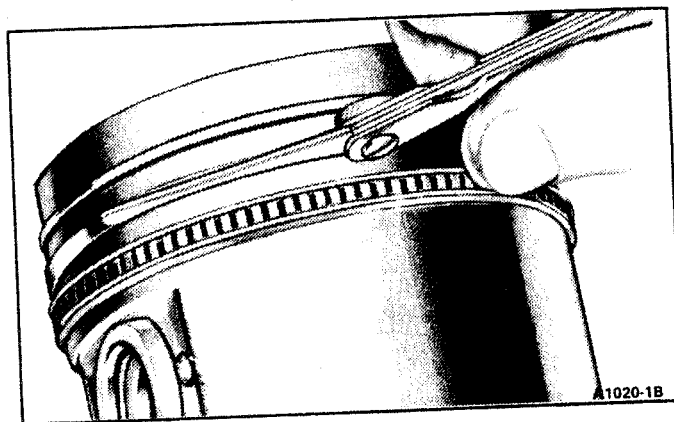

FIG. 82 Checking Piston Ring Side Clearance
6. Check ring side clearance of compression rings feeler gauge, Tool D81L-4201-A, inserted between ring and its lower land (Fig. 82). Gauge should slide freely around entire ring circumference without binding. Any wear that occurs will form a step at inner portion of lower land. If lower lands have high steps, piston should be replaced.